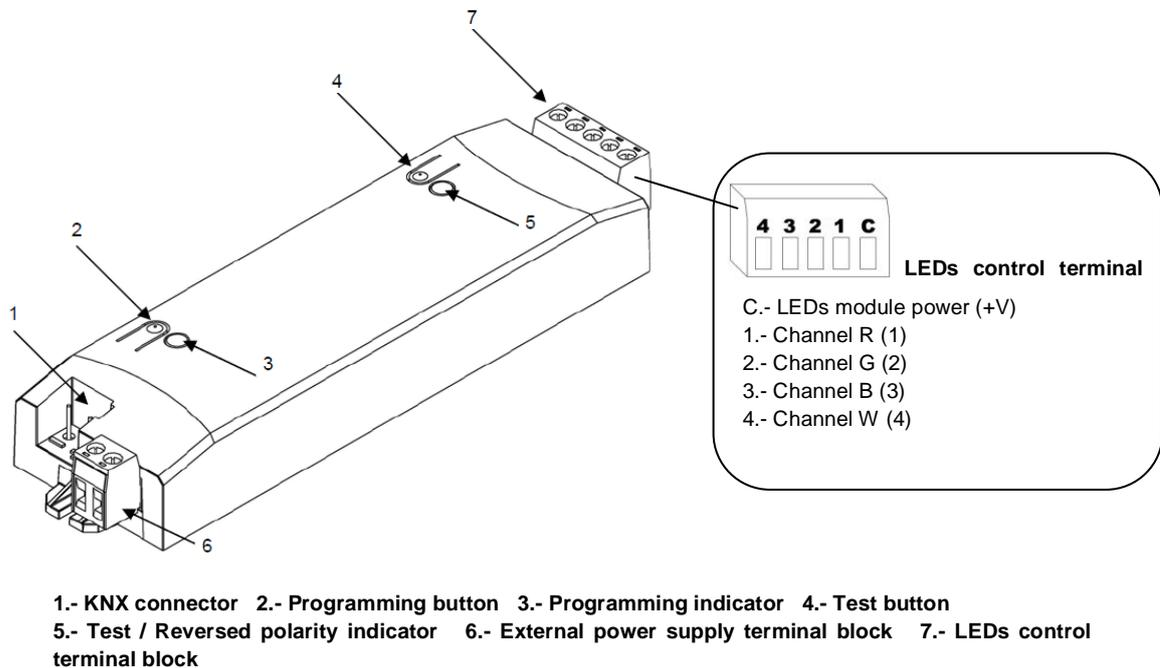

Figure 1.2. LUMENTO X4. Connection scheme
In the figure 1.2, the connection scheme of LUMENTO X4 is shown:
It is also provided with the controller a second terminal block with screws for controlling the LEDs (7), where to connect every channel and the power of the LEDs module (+V). In the figure 1.2 appears a scheme of the terminal block, with each of its connection points. (**Note:** *These cables can be screwed onto the terminal block before installing the device and then inserted at a later date*).